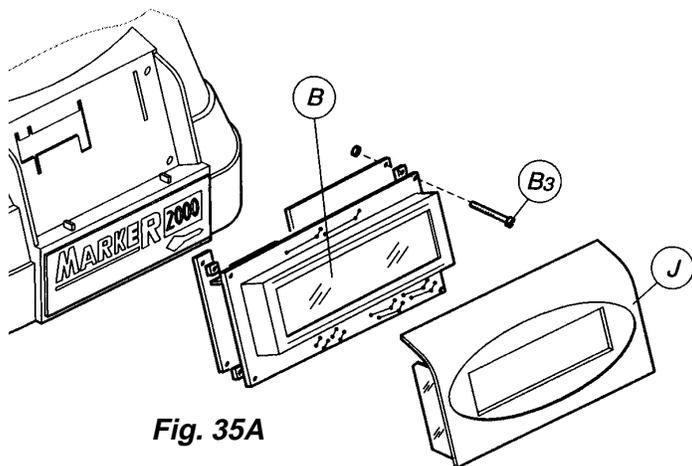

Fig. 35A
5. Position the new display, making sure to properly align the display, the spacer and the plate (Fig 35a).
6. Re-connect the fasten (B2) and connector (B1), replace the cover (Q) and secure with the four screws (Q1).